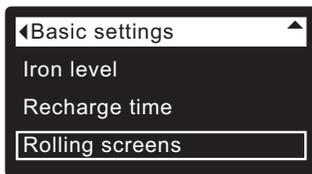

FIG. 51
3. Press the SELECT (O) button to display the Basic settings menu (See Figure 51).
7. To un-select a screen, make sure its name is highlighted in a box. Then press the SELECT (O) button. The black square will disappear. Pressing SELECT (O) again makes the black square reappear and re-selects the highlighted item. At least one screen must be selected/highlighted.
8. When selections are complete, exit this menu by pressing the LEFT (◀) button. The display will go back to the Basic settings menu (Figure 51).